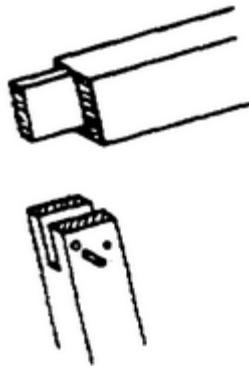
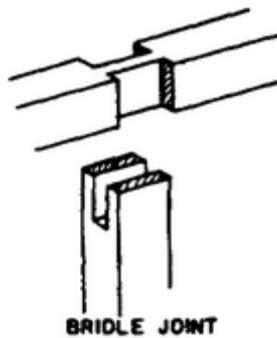

Figure 6. Open mortise and tenon joints.
Figure 7. Bridle mortise and tenon joints.
a. Open mortise and tenon joints. These joints are sometimes called slip joints, as illustrated in figure 6. As you can see, the mortise is cut completely through the end of one piece, which is open on three sides, and the tenon is slipped into this open mortise. It is a strong joint and can be used on various types of frames. This type of mortise and tenon joint can be nailed, screwed, pegged, or glued for added strength. Another version of this type of joint is the bridle joint, illustrated in figure 7. However, in this version one member is joined in the center.